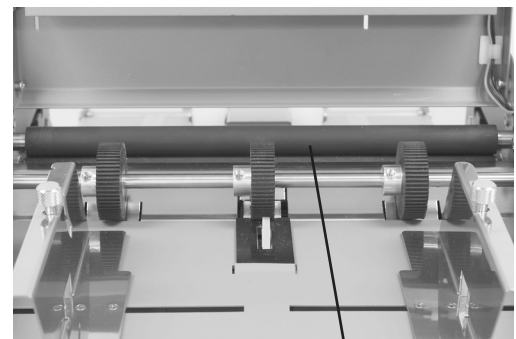

Fig. 15 Fold Rollers
1. Make sure machine is turned off and unplugged. All folders have four (4) rubber rollers (Fig. 15).